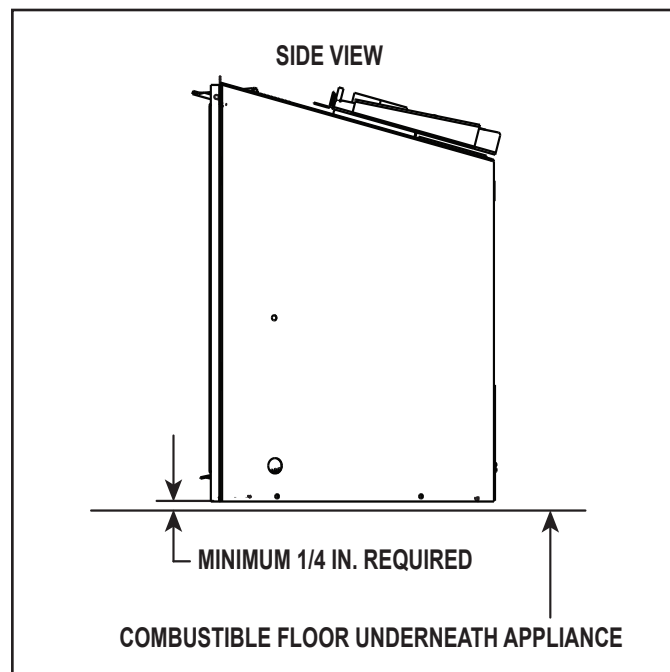

Figure 3.17 Solid Fuel Floor Clearance
- A minimum 1/4 inch gap from the bottom of the appliance to the metal floor of the solid fuel firebox is **REQUIRED**. See side view in Figure 3.17.
- Combustible flooring underneath the appliance is acceptable with a 1/4 inch gap. See Figure 3.17.